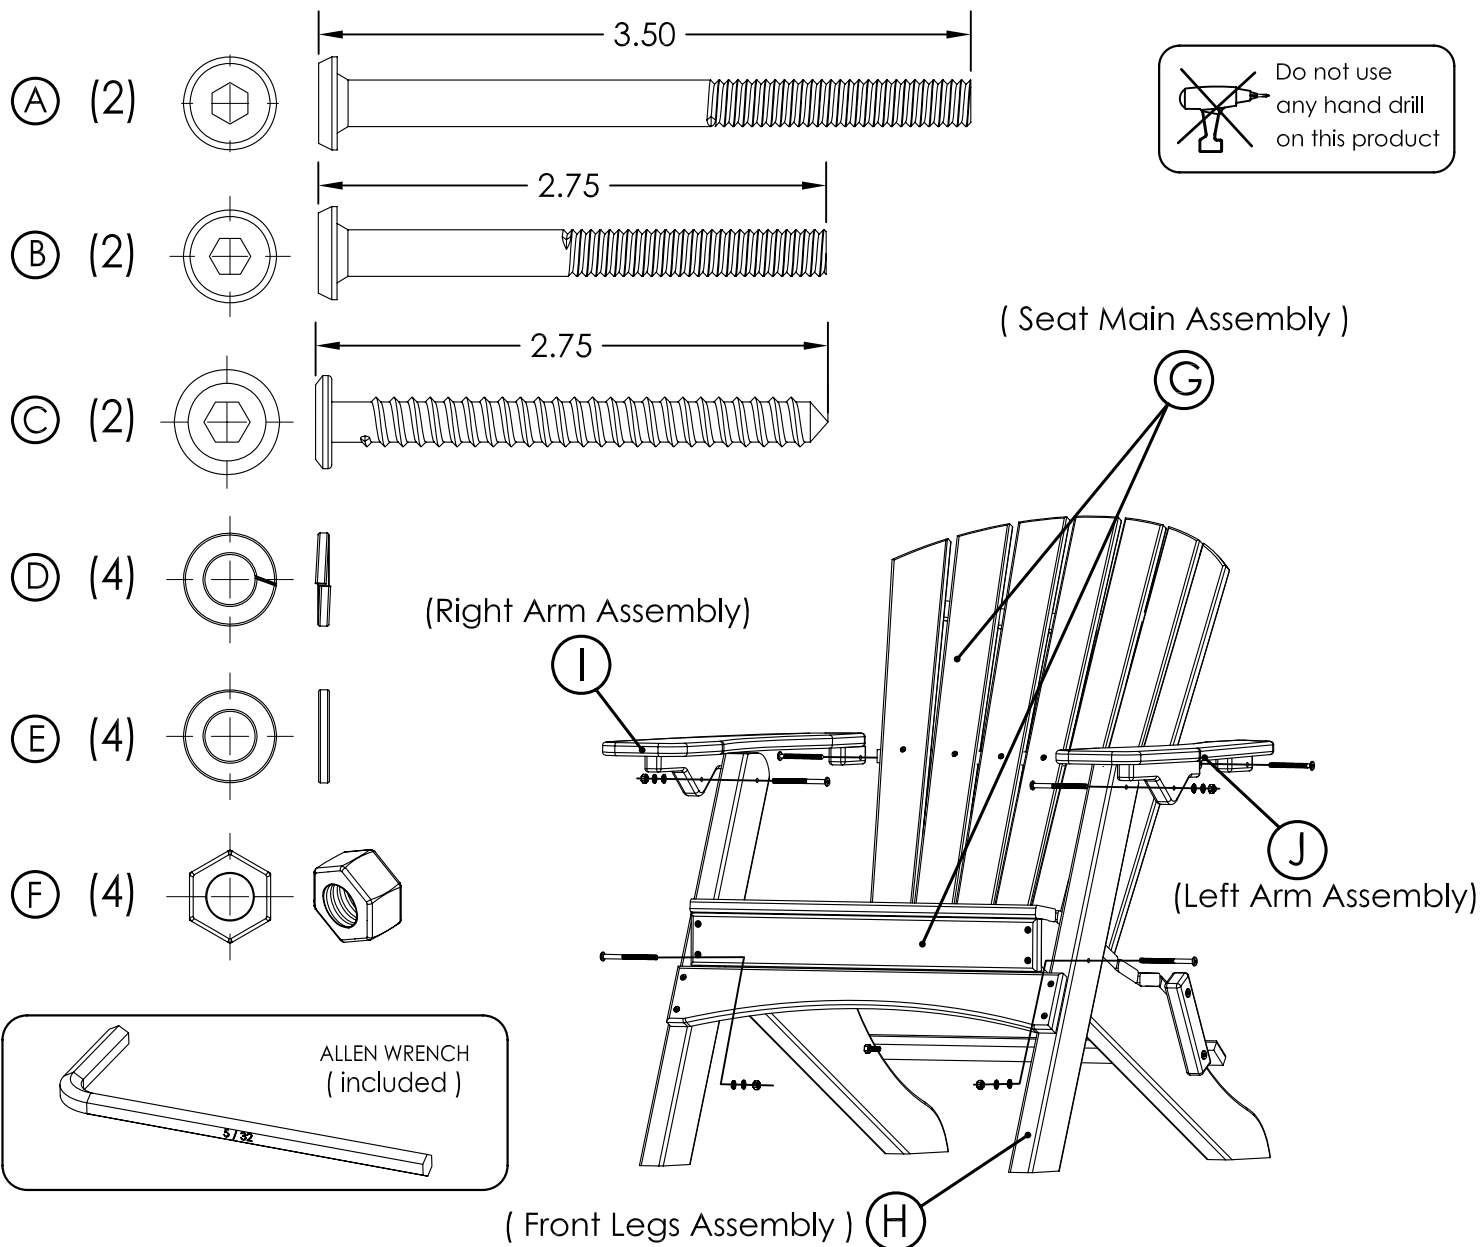
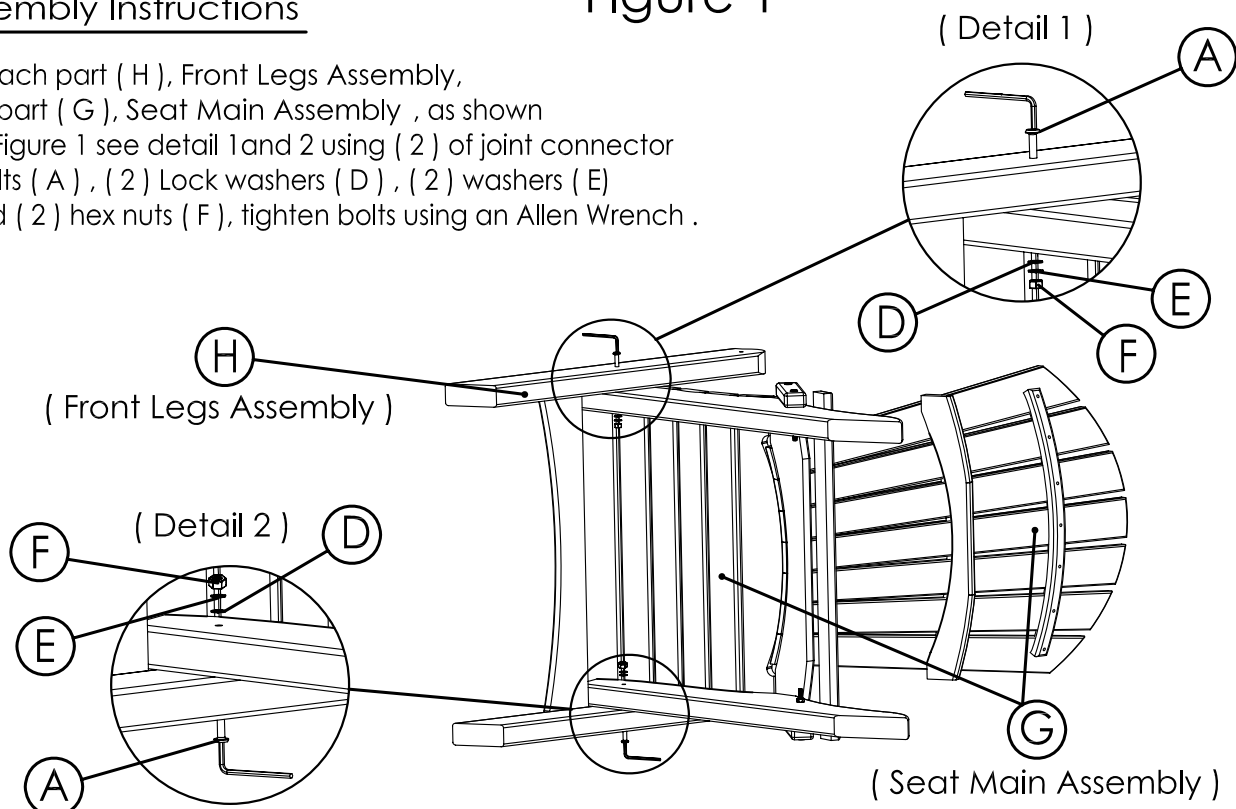

Figure 1
Figure 2
1 - Attach part (H), Front Legs Assembly, to part (G), Seat Main Assembly, as shown in Figure 1 see detail 1 and 2 using (2) of joint connector bolts (A), (2) Lock washers (D), (2) washers (E) and (2) hex nuts (F), tighten bolts using an Allen Wrench.
2 - Attach part (I), Right Arm Assembly, and part (J), Left Arm Assembly to assembly from Figure 1, as shown in Figure 2 see detail 3 and detail 4 using (2) of joint connector bolts (B), (2) Lock washers (D), (2) washers (E) and (2) hex nuts (F), tighten bolts using an Allen Wrench .